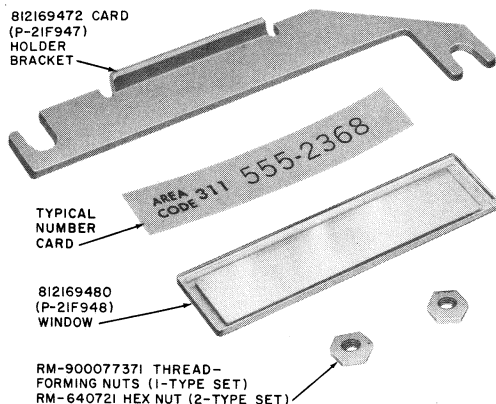

Fig. 27—Number Card and Associated Hardware for TOUCH-TONE Set
**3.41** A card holder bracket, window, and two nuts (Fig. 27) are packaged separately and shipped from the factory in the cash compartment.